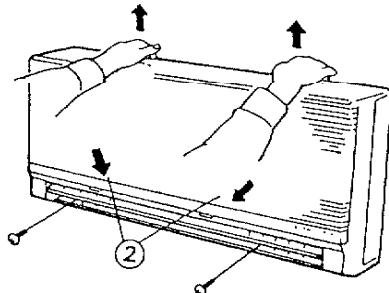

Fig. 1
- 2) Pull up the casing by hand, press down on tabs on top, then withdraw the casing by pulling it back straight. Fig. 1
When replacing the removed casing as it was before, push two positions as shown in Fig. 1 ② until the casing clicks properly.